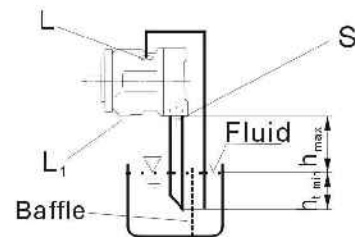

Fig.4
b) If the minimum fluid level is equal to or below the top of the pump, pipe ports "L" and possibly "S" as Fig.4.; close port "L1".
a) When mounting above the reservoir, see fig.4. Conditions according to 1.2.1.